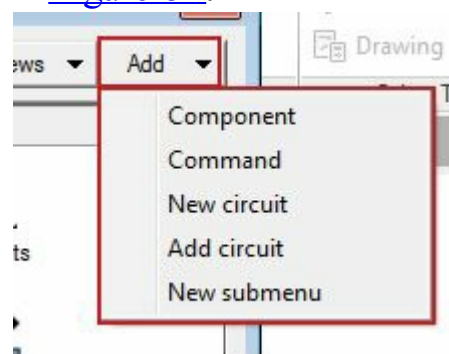

Figure-54. Add menu
- Click on the **Add** button top-right corner of the dialog box. A list of tools will be displayed; refer to Figure-54.